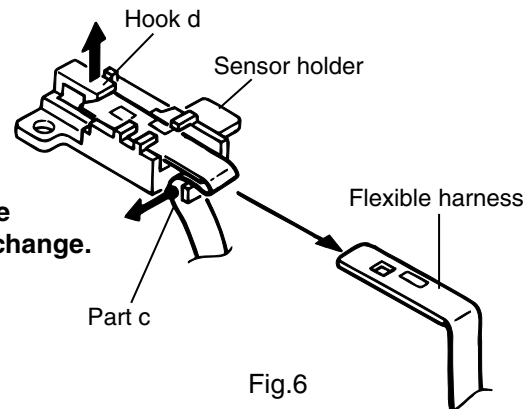

Fig.6
2. Remove the screw C attaching the sensor holder and detach the sensor holder from the turn table bracket. Slacken and remove the flexible harness of the part c as shown in Fig.6. Pull up the hook d and remove the flexible harness from the sensor holder.
- Let the flexible harness through the part c of the sensor holder and reattach it to the hook d correctly (See Fig.6).